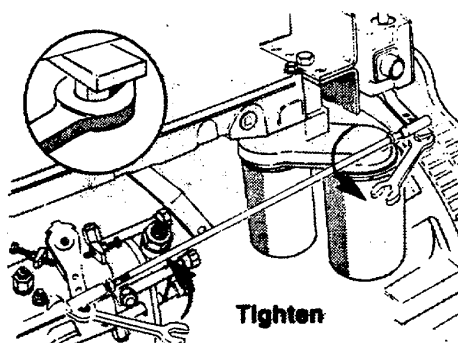

FIGURE 3-10. Tighten Linkage and Levers.
- (4) Ensure all linkage and levers are securely tightened. (FIGURE 3-10)